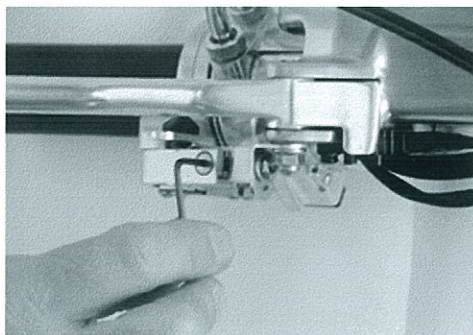

Figure 18
- 3.7 Tighten the Slide Lock Screw(16)(**Figure 18**). Make sure the Swivel(5) and the Slide(6) stay in position as you tighten the screw.